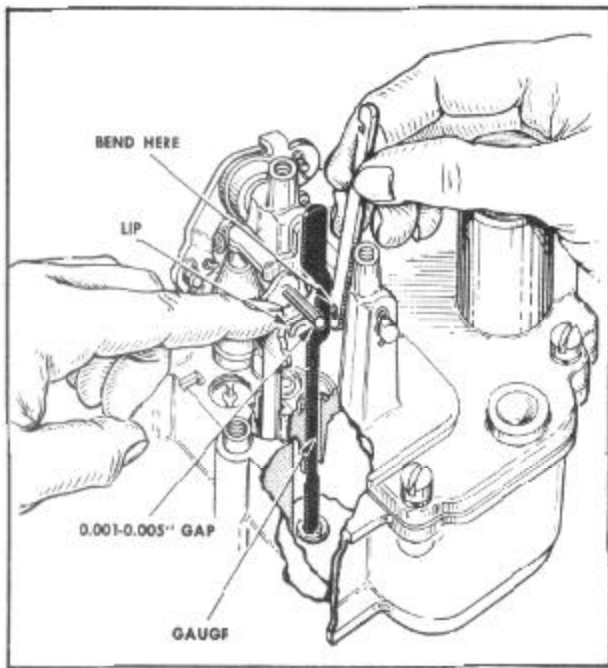

FIGURE 12
3. Insert metering rod gauge, J-1305 (Carter No. T-109-113) in place of rod. Be sure gauge seats in metering rod jet, Figure 12.